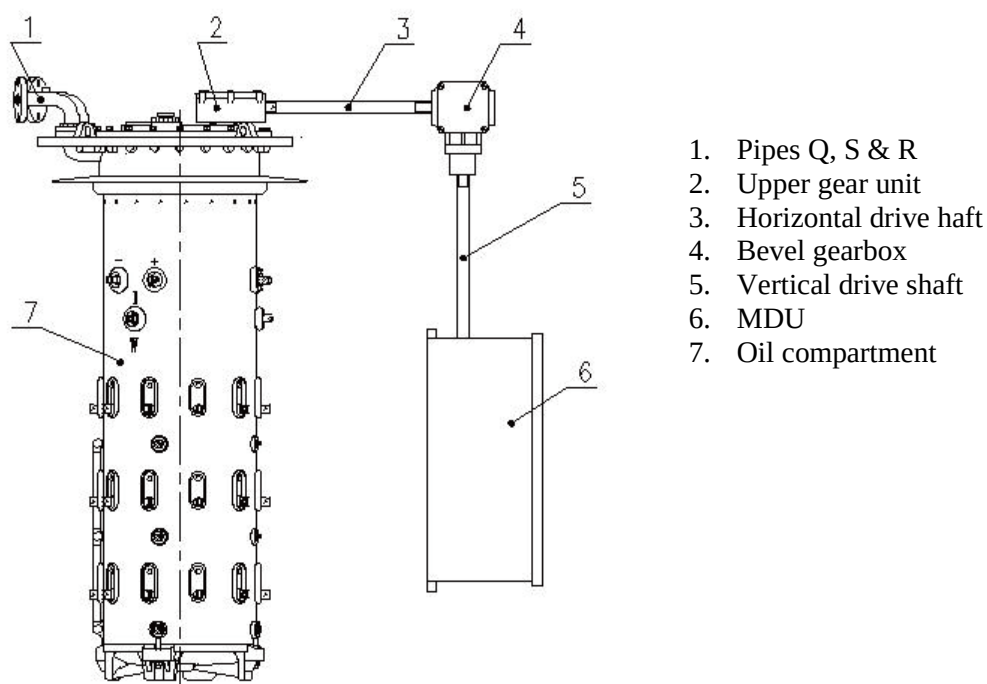

Figure 31 Drive shaft connection
- 2) Connect the drive shaft with motor drive unit and tap-changer according to the instruction manual of Huaming motor drive unit. (Figure 31)